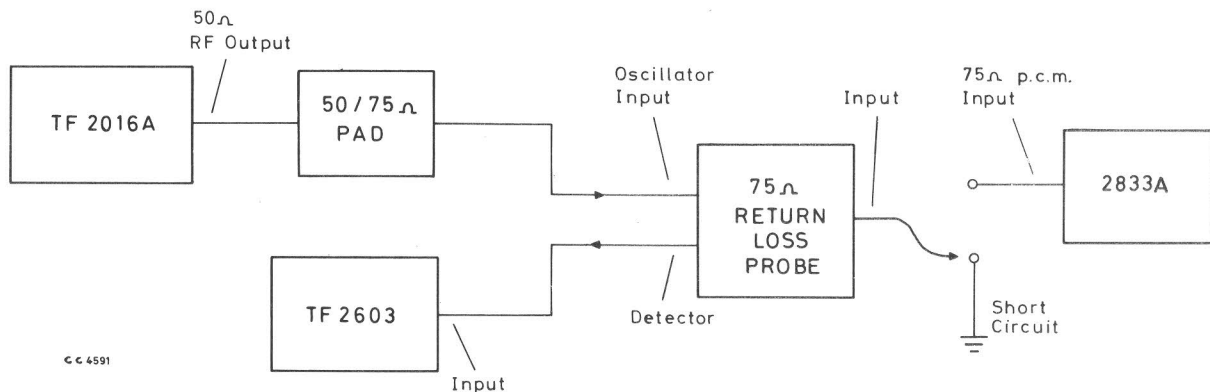

Fig. 8 Measuring return loss on the 75 Ω p.c.m. input
(1) Connect the test equipment as shown in Fig. 8.